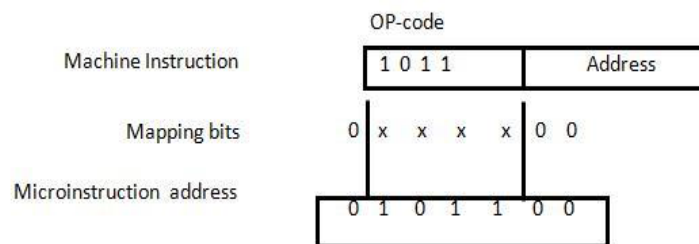

Figure 4.3: Mapping from instruction code to microinstruction address
- The status bits for this type of branch are the bits in the operation code part of the instruction. For example, a computer with a simple instruction format as shown in figure 4.3 has an operation code of four bits which can specify up to 16 distinct instructions.
- One simple mapping process that converts the 4-bit operation code to a 7-bit address for control memory is shown in figure 4.3.